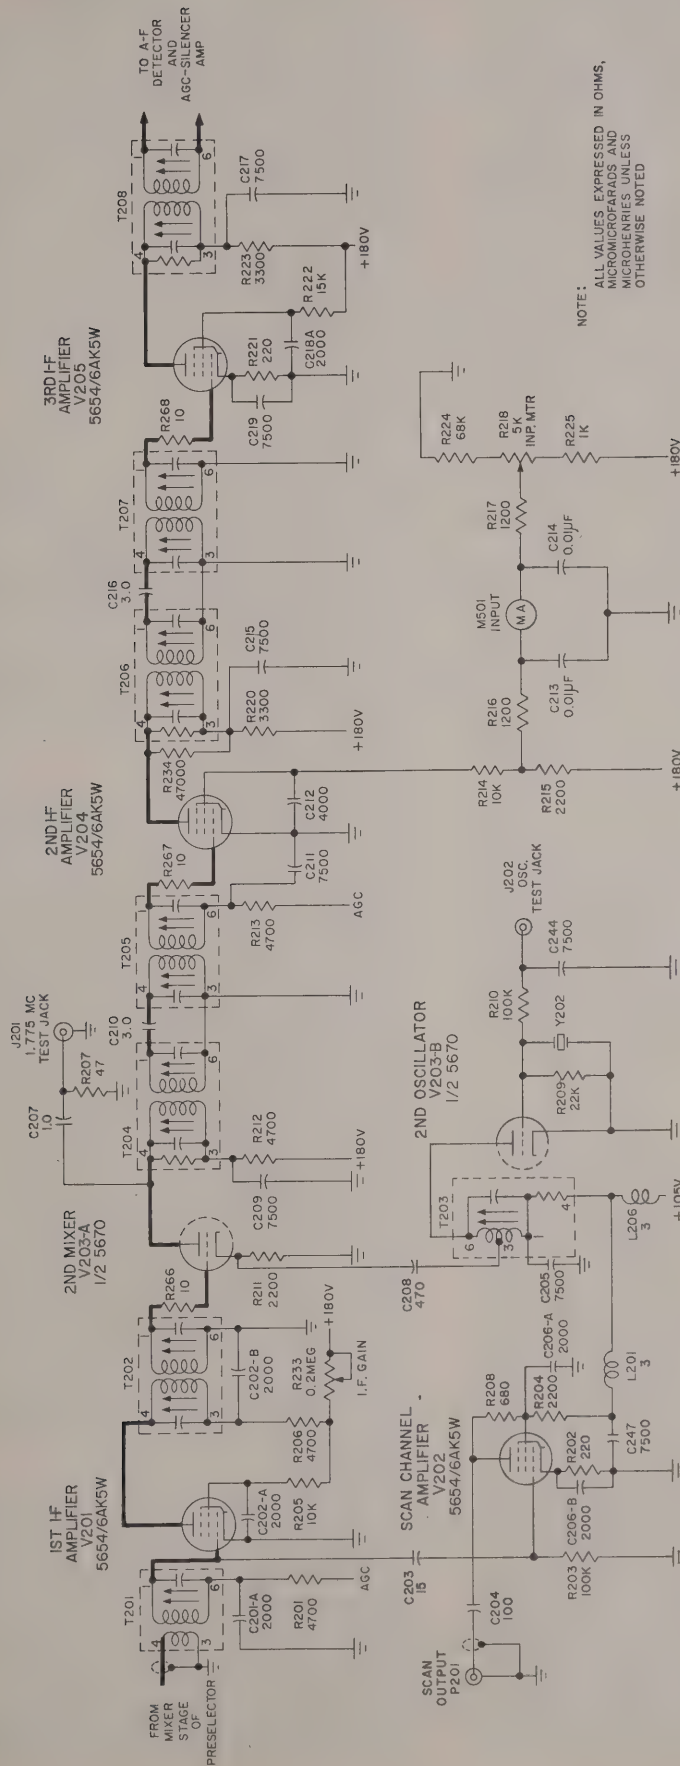

Figure 2-7. I-F Amplifiers, Scan-Channel Amplifier and Input Meter Circuit, Simplified Schematic Diagram
(1) FIRST INTERMEDIATE-FREQUENCY AMPLIFIER.—The i-f signal from the mixer stage of the r-f amplifier section is link-coupled into transformer T201. This transformer, tuned to resonance at 18.6 mc, feeds the grids of both the first i-f amplifier, V201, and the scan-channel amplifier, V202; see figure 2-7. The first i-f amplifier is a 5654/6AK5W pentode. AGC voltage is applied through resistor R201 and the transformer to the grid of the i-f amplifier. The AGC system is decoupled from the i-f signal by resistor R201 and capacitor C201-A. The plate and screen voltages for V201 are obtained from the +180-volt supply through the i-f gain control, R233. Screen voltage is supplied from this potentiometer through
(2) SCAN-CHANNEL AMPLIFIER.—The scan-channel amplifier, V202, is a 5654/6AK5W pentode amplifier; see figure 2-7. The i-f signal is coupled from transformer T201 to the control grid of V202 through capacitor C203. Resistor R203, connected between the control grid of the scan-channel amplifier and ground, is the grid-leak resistor. Cathode bias is supplied by means of resistor R202 and capacitor C206-B. Plate and screen voltages are supplied to this stage through r-f chokes L201 and L206, and through resistor R204 from the +105-volt source. Capacitor C206-A serves as the screen-grid bypass. The plate-load resistor, R208, is tied between the plate and the screen grid, so that the output voltage is developed across resistor R208 only, not across both R208 and R204. Capacitor C247, along with r-f chokes L201 and L206, decouple the power supply from the signal in V202. The output of this stage is taken from load resistor R208, and applied through capacitor C204 to P201, a connector located in the rear apron of the receiver chassis. When not in use, the scan-channel output is terminated by a 47-ohm resistor located in terminating cap E401, at the rear of the low-pass filter.
(3) SECOND OSCILLATOR.—V203-B, one half of a type 5670 tube, is used as a crystal-controlled triode oscillator in order to create a heterodyning signal for the second of the two frequency conversion in this radio set; see figure 2-7. The crystal, Y202, is a type CR-23/U crystal, cut to have a nominal frequency of 16.8250 mc. Grid-leak bias is supplied for the oscillator tube by resistor R209, connected from the control grid to ground and in parallel with the oscillator crystal. Plate voltage for the stage is supplied from the +105-volt source to the plate by way of oscillator transformer T203. The output signal is applied to the mixer stage from a tap on the transformer coil. The oscillator may be tested by measuring the grid voltage developed across grid resistor R209 at test point J202. This test point is connected to the common connection of the grid, the grid-biasing resistor and the crystal, through resistor R210. Resistor R210 and capacitor C244 form a low-pass filter, which isolates the grid circuit from the meter used to measure the grid bias. The sine-wave signal applied to the grid by the oscillator crystal is amplified in the tube and applied to transformer T203. A portion of the signal is applied from a tap on the transformer winding (for impedance matching) to capacitor C208, and from this capacitor to the cathode of the mixer.
(4) **SECOND MIXER.**—The second mixer, V203-A, is one half of a 5670 twin-triode tube, as shown in figure 2-7. The i-f input signal is applied through the secondary winding of i-f transformer T202 to the control grid of the mixer, and the oscillator injection voltage is applied to the cathode. Resistor R266, in the grid circuit, tends to prevent spurious oscillation, while cathode resistor R211 serves as the point of oscillator injection. Plate voltage is supplied to this stage through resistor R212 and i-f transformer T204. Resistor R212 and capacitor C209 decouple the power supply from the i-f signal in transformer T204.
(5) **SECOND AND THIRD INTERMEDIATE-FREQUENCY AMPLIFIERS.**—The components and circuitry of the second and third i-f amplifier stages are almost identical; see figure 2-7. The essential difference between the two i-f amplifier stages is that the gain of the second i-f amplifier stage is controlled by the AGC voltage, while the third i-f amplifier stage is self-biased.
(6) **"INPUT" METER CIRCUIT.**—INPUT meter M501 is provided to indicate the approximate incoming signal strength. It also serves as an alignment indicator for the oscillator-multiplier section when switch S201 is placed in the ALIGN position. The meter circuit is shown in figure 2-7. One side of meter M501 is connected through a low-pass filter, consisting of R216 and C213, to the junction of resistors R214 and R215 in the screen-grid circuit of the second i-f amplifier, V204. The other side of the meter is connected through a similar filter (R217 and C214) to the wiper arm of INP. MTR. potentiometer R218. Potentiometer R218, along with resistors R224 and R225, is connected in a voltage-divider network between the +180-volt supply and ground.